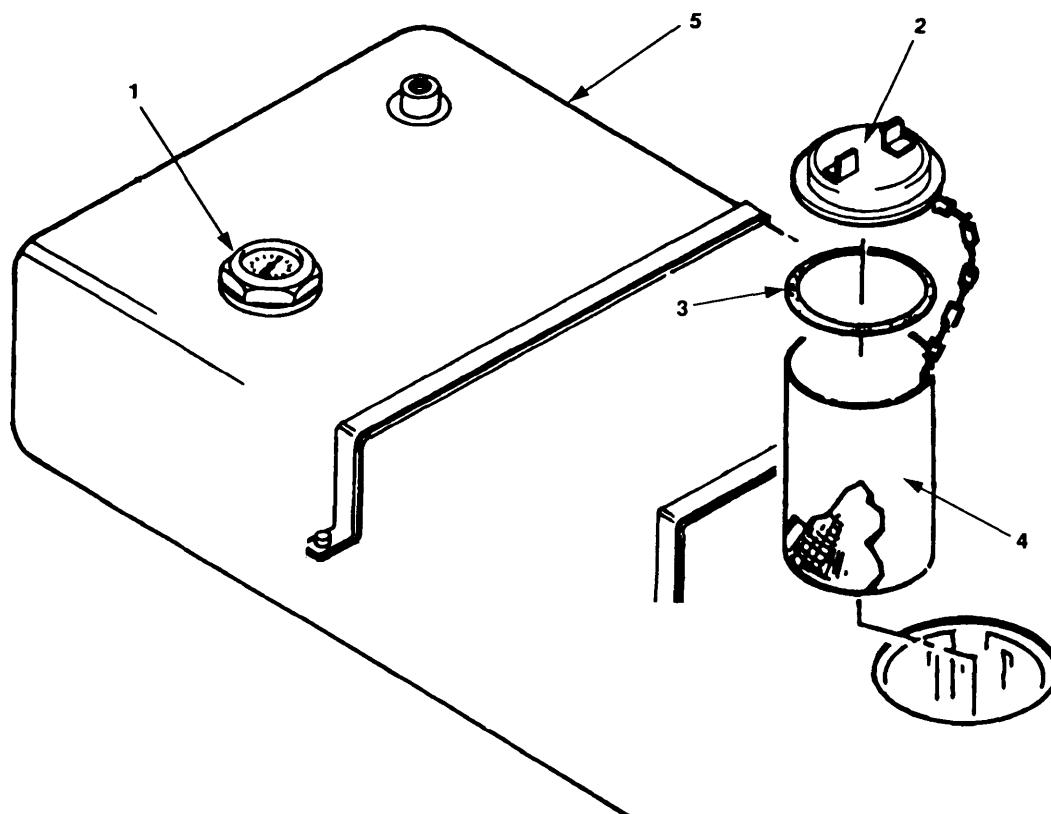

Figure 3-5. Fuel Tank Servicing.
- a. Observe fuel gauge (figure 3-5, 1) for fuel level. When below 1/4 tank, perform remaining steps of this procedure.